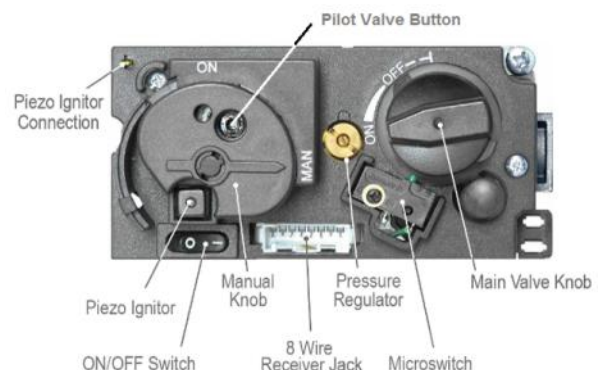

Figure 16 – GV60 Valve Configuration (Top)
4. Locate and turn the MANUAL Knob on the valve clockwise to the "MAN" position (see Figure 16).
8. Once the pilot lights, continue holding the Pilot Button for one (1) minute. Release the Pilot Button and the pilot flame should remain on.